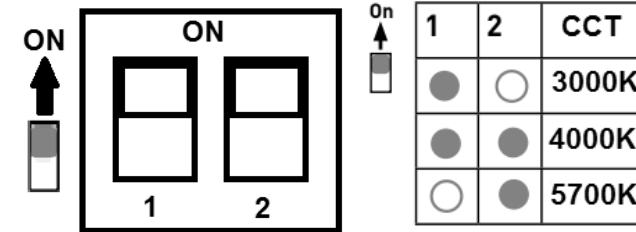

Fig. 6
- Choose the required colour temperature by means of the DIP switch (see Fig. 6)